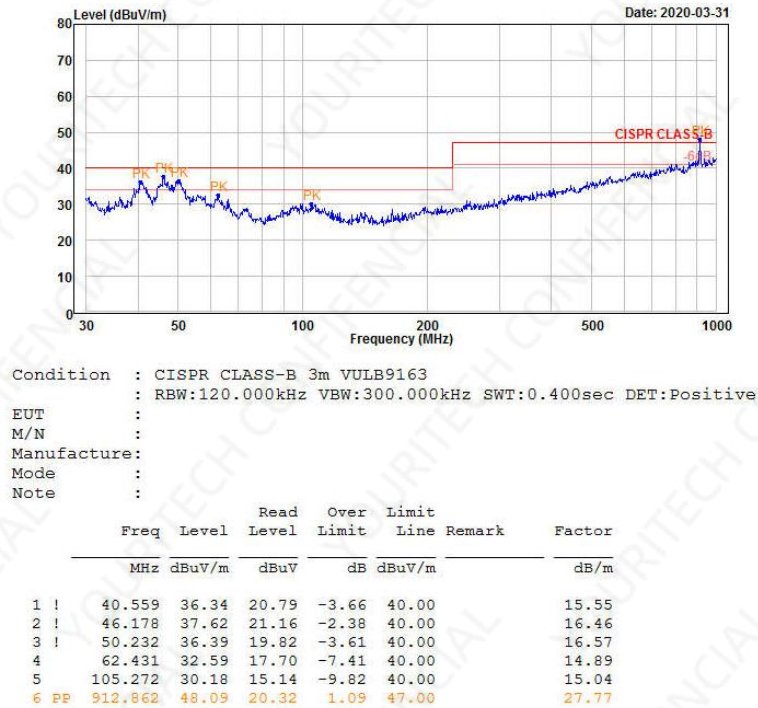

Figure 5-7 Radiation test vertical
2. Radiation test vertical test data, shown in Figure 5-7.